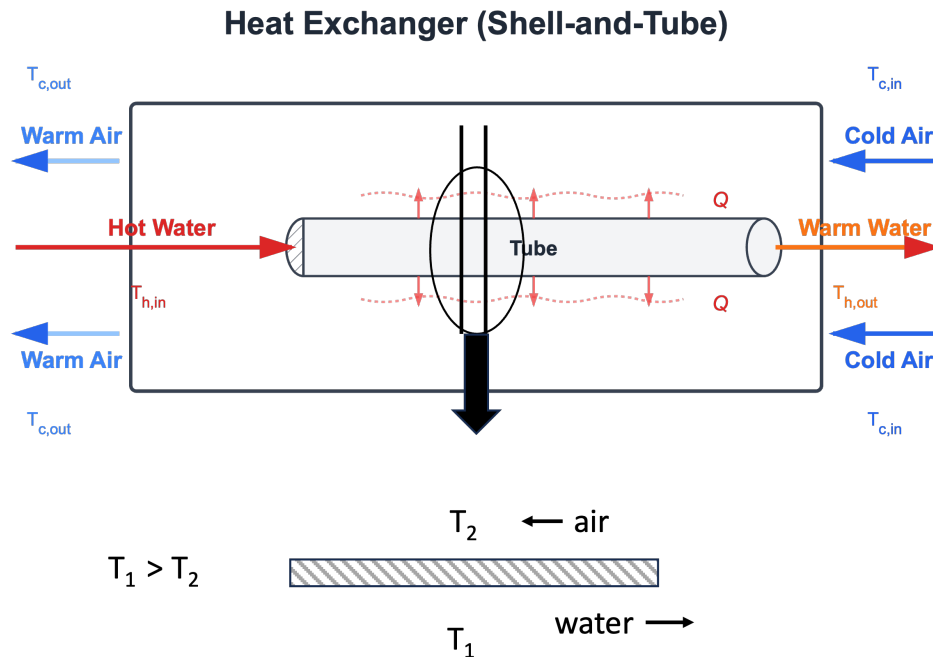

Fig. 5: Heat Exchanger Detail
- Fig. 5 shows more detail of the heat exchanger. If we consider a vertical cross section at a mid-point along the tube, we see that across the thin metal tube surface, the water is at a higher temperature  $T_1$  than the air, which is at  $T_2$ .